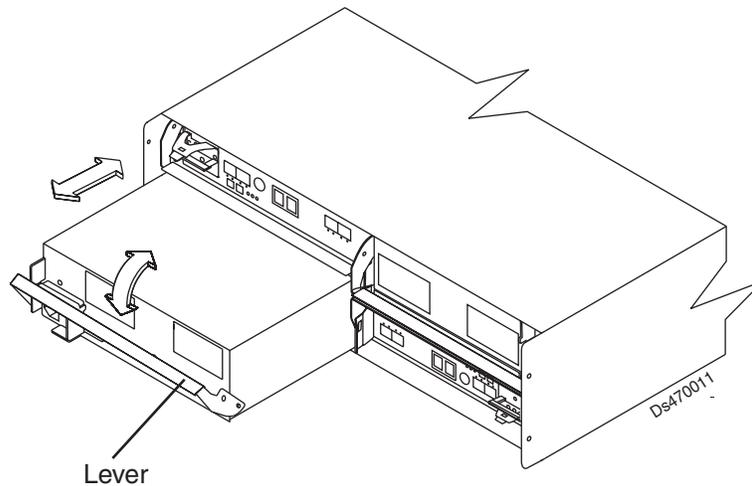

Figure 17. Replacing a power supply-fan
2. Slowly pull the lever away from the chassis to remove the power supply-fan, as shown in Figure 17 on page 35.